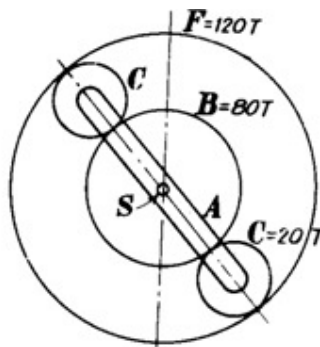

Figure 1
- b) Figure 1, shows an epicyclic gear in which arm A is fixed to the shaft S, B is free to rotate on S and F is separately driven. A receives 7.5kW at 200rpm and F is driven in the same direction at 100rpm. Determine the speed of B and the torque on its shaft. (10M)